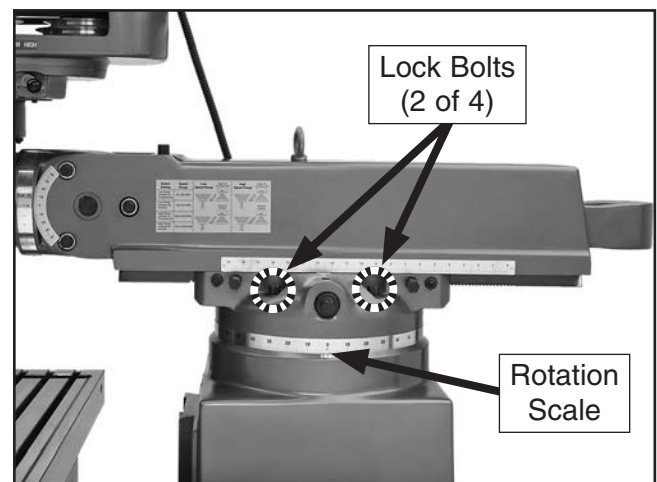

Figure 25. Ram rotational controls.
2. Loosen the four lock bolts on top of the turret (see **Figure 25**).